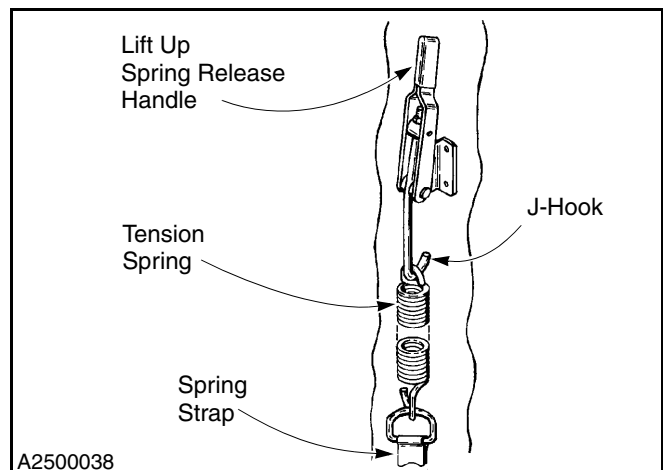

Figure 8
8. Reapply tension to the tension strap by raising the spring release handle and locking it in place. (See Figure 8.)